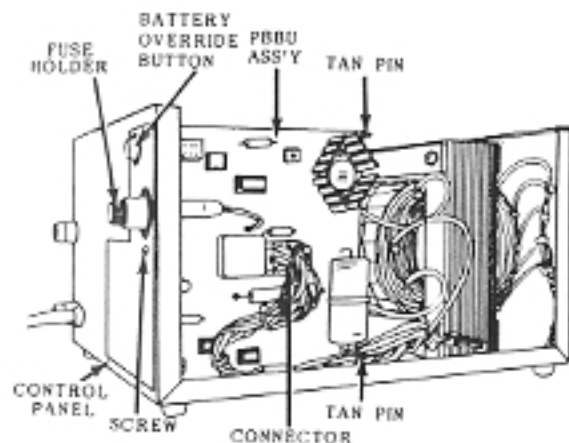

FIGURE 11
02.22 Unwrap the PBBU. Remove and save the screw located in the mounting bracket (Figure 11).
02.23 Slip the PBBU fuse holder and battery override button through their respective ports in the control panel (Figure 11). The PBBU mounting bracket should be flush against the rear of the control panel. The harness should flow around the PBBU PCB, with no wires beneath it.
02.25 Use the previously removed screw and secure the mounting bracket to the control panel (Figure 11).
02.28 Depress the battery override button (Figure 11). If it catches and stays in, press it again to cause it to release and protrude out of the control panel. The button must be out for the EPSA to operate normally.